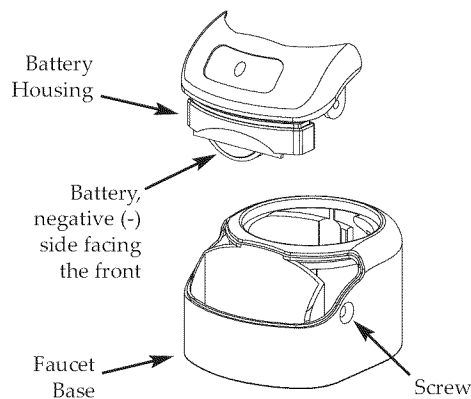

Figure 29
1. Loosen the screw on the right side of the faucet base. See Figure 29.
2. Press the battery housing upwards from the front faucet base until it releases from the faucet base. See Figure 29.
5. Re-install the battery housing and firmly tighten the mounting screw. See Figure 29.